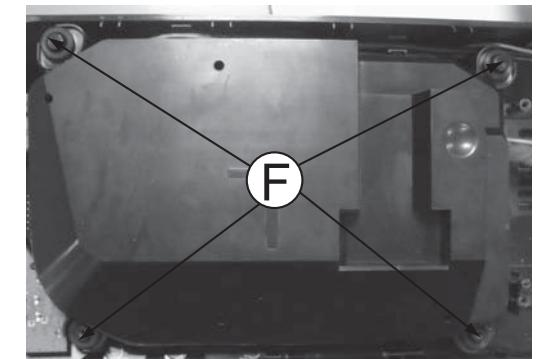

Figure 6
- 2) Loosen 10 screws "F" & "G" to remove the right & left Loudspeaker boxes as shown in figure 6 & 7, and loosen 4 screws "H" to remove the Speaker driver as shown in figure 8.